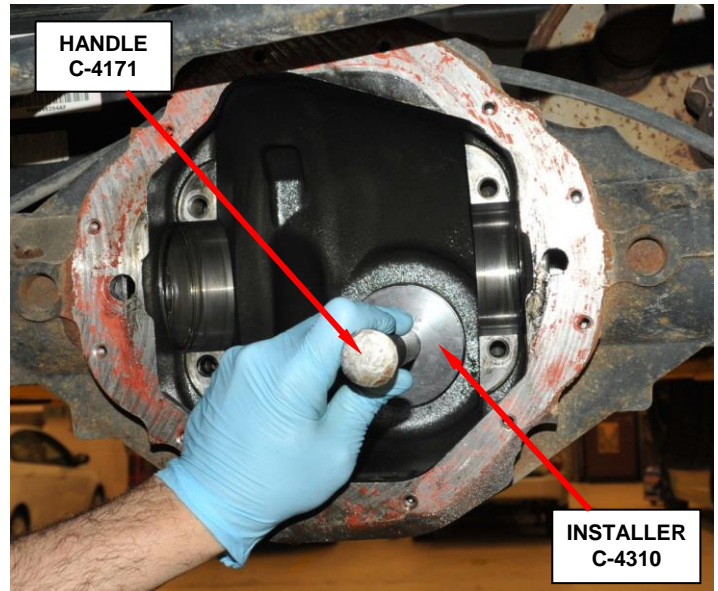

Figure 16 – Rear Pinion Bearing Cup Installation
- Install the rear pinion bearing cup with Installer C-4310, Handle C-4171 and a hammer (Figure 16).